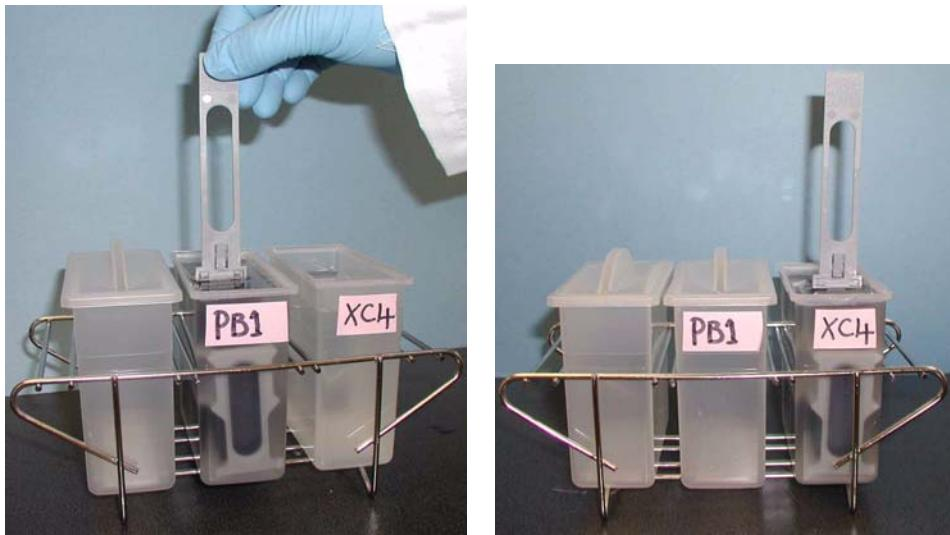

Figure 157 Moving BeadChips from PB1 to XC4
14. Remove the staining rack from the dish containing PB1 and place it directly into the wash dish containing XC4 (Figure 157). The barcode